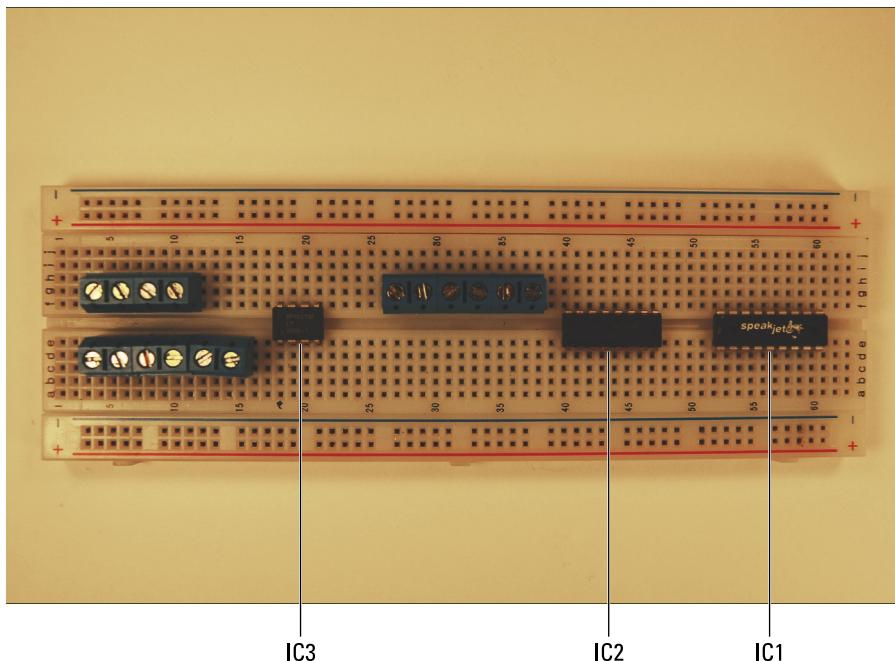

Figure 4-6:
2. Insert wires to connect the ICs and the terminal blocks to the ground bus and then insert a wire between the two ground buses to connect them to each other, as shown in Figure 4-6.